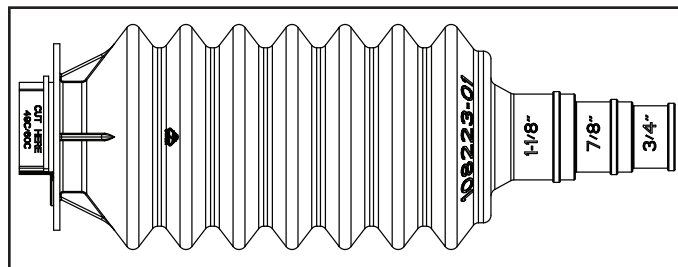

FIGURE 3. Line Set Joint Sleeve
- 2 - Determine the refrigerant suction line size. For suction lines of 7/8" or 1-1/8", trim the smaller end of the larger line set joint sleeve accordingly to accommodate the refrigerant piping (see figure 3).
NOTE – For sizes 49C and 60C, cut off marked section on line set joint sleeve (see figure 3)